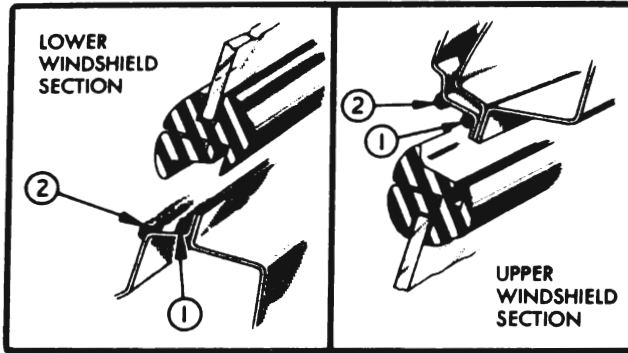

Figure 13-30—Location of Windshield Sealing Compounds
5. Apply a continuous $\frac{3}{16}$ " bead of 3-M Autobody Sealer in outer corner of pinchweld flange, completely around the opening as indicated at (1) in figure 13-30.
6. Apply a continuous bead of 3-M Weatherstrip Adhesive to outer corner of windshield opening rabbet, completely around the opening, as indicated at (2) in figure 13-30.